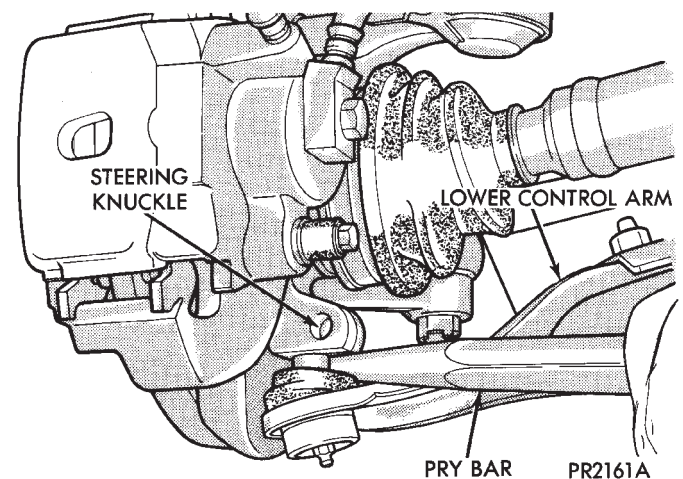

Fig. 6 Separate Ball Joint from Knuckle
(3) Separate ball joint stud from steering knuckle by prying against knuckle leg and control arm (Fig. 6).
CAUTION: Do not damage ball joint or C/V joint boots (Fig. 6).